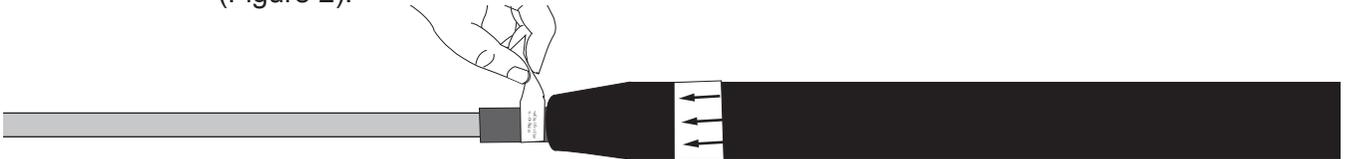

Figure 2
Step 1: Remove the tag wrapped over the heat-shrink tube at the cable end of the sleeve (Figure 2).